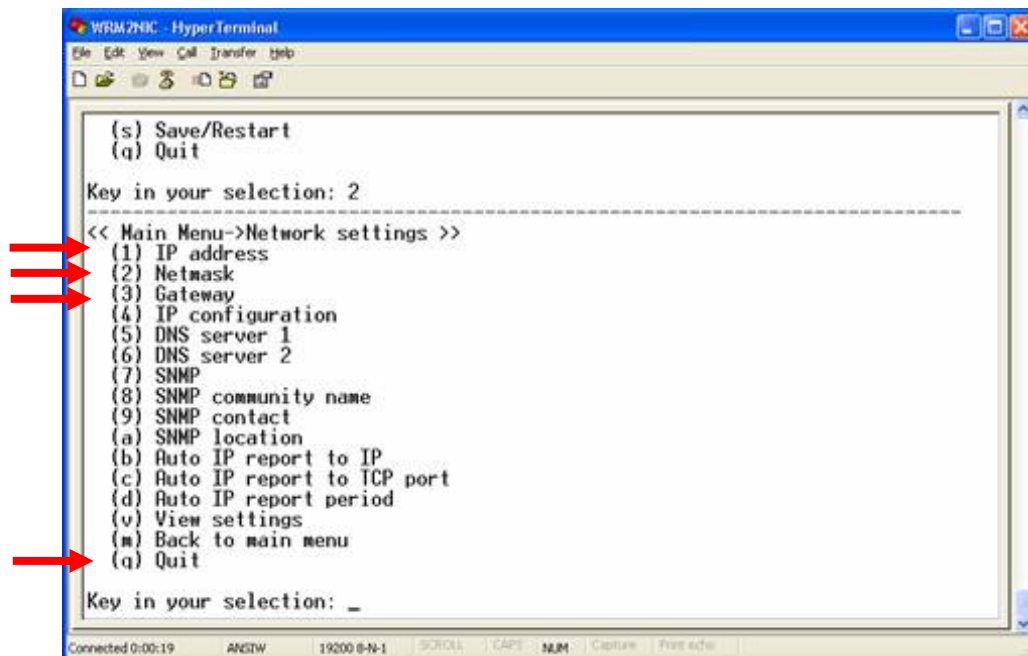

Figure 10: Network Configuration
10. Select 2, then press ENTER. The following menu will appear (**Figure 10** below):
Perform changes, as appropriate, that meet specific network settings (as identified in **Figure 10** above) for: